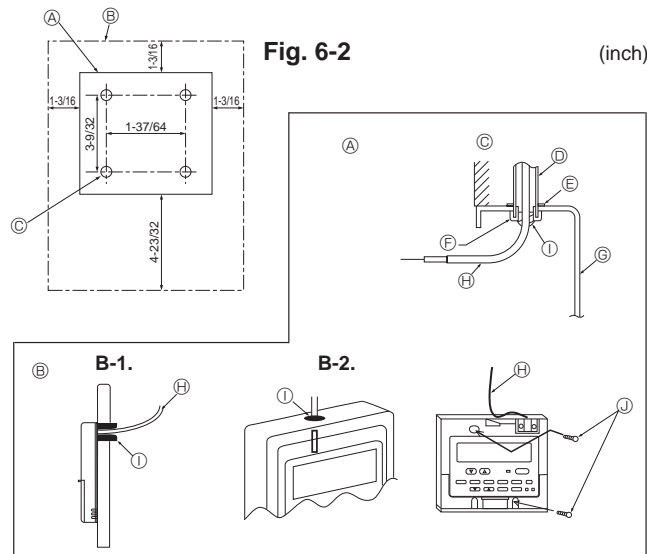

Fig. 6-2
(1) Select an installing position for the remote controller. (Fig. 6-2)
#### [Fig.6-2]